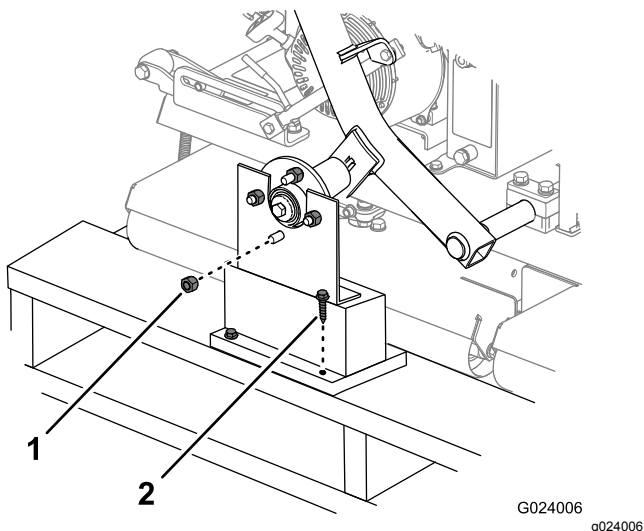

Figure 3
1. Remove the lug nuts securing the wheel hubs to the shipping brackets (Figure 3). Also, remove the nuts threaded onto the stud of each wheel hub.